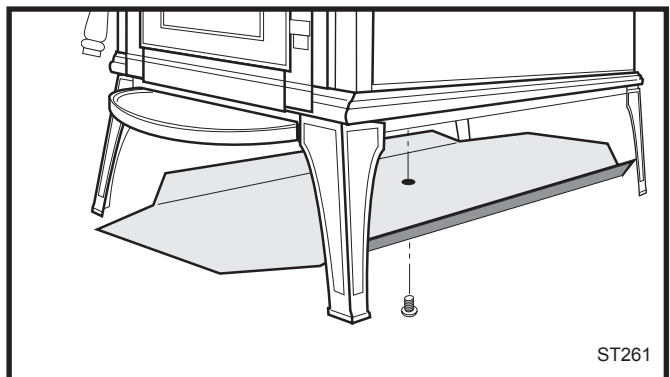

Fig. 27 Install the bottom heat shield.
1. Remove the 1/4-20x 3/8" phillips screw from the central mounting boss in the stove bottom. (Fig. 27)